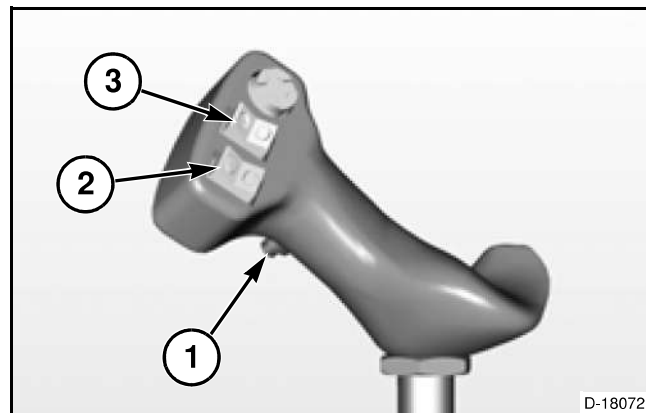

FIG. 98
FIG. 98: If the trigger button (1) has been set for float mode, the buttons on the ground speed lever can be used to temporarily change the flotation pressure. See Machine Settings in this section to set the trigger button function.
- Hold the trigger button and press the header lift switch (2) to increase or decrease the left-hand flotation pressure.
- Hold the trigger button and press the header tilt switch (3) to increase or decrease the right-hand flotation pressure.